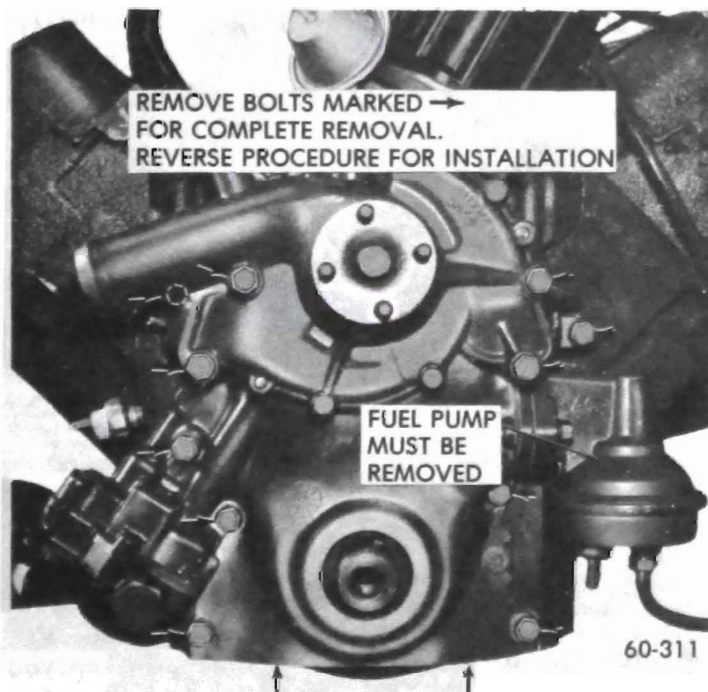

Figure 60-50 - Timing Chain Cover Removal and Installation (350 cu.in.)
11. Remove bolts attaching timing chain cover to cylinder block. See Figures 60-50 and 60-51. Remove two oil pan to timing chain cover bolts 350 Cu In. and 4 bolts on the 455 Cu. In. Remove timing chain cover assembly and gasket. Thoroughly clean the cover, taking care to avoid damage to the gasket surface.
4. Lubricate the bolt threads before installation and install as shown in Figures 60-50 and 60-51.